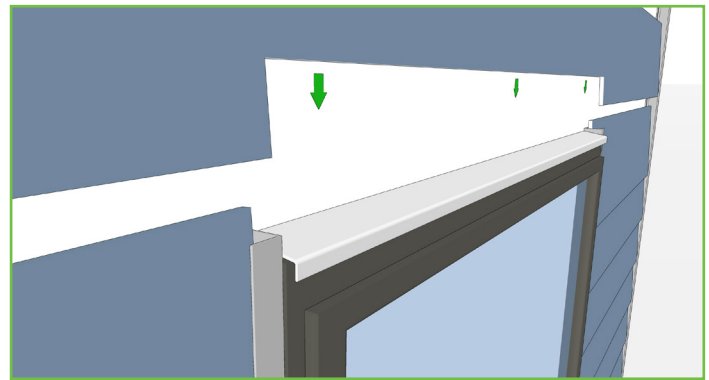

Figure 24.4
- 8.** Cut lap to fit into EZ.40 J trim (Figure 24.4).